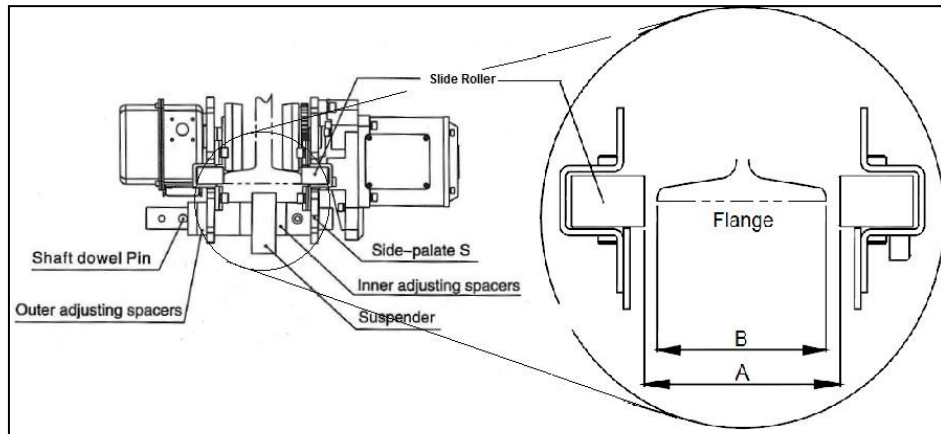

Figure 4.2.1.7
7. Make sure both side plates are spread fully outward and measure dimension "A". Dimension "A" must be $\frac{5}{32}$ " (4 mm) greater than "B" (refer to Figure 4.2.1.7).